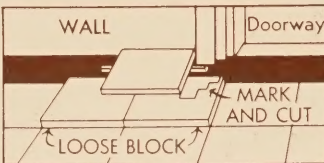

FIG. 7
Step 6: For fitting a block at the doorway or door jambs, see Fig. 7.